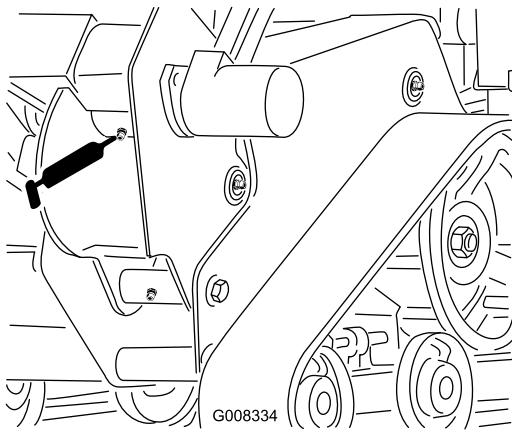

Figure 32
2. Clean the trencher housing grease fitting with a rag and connect a grease gun to it (Figure 32).